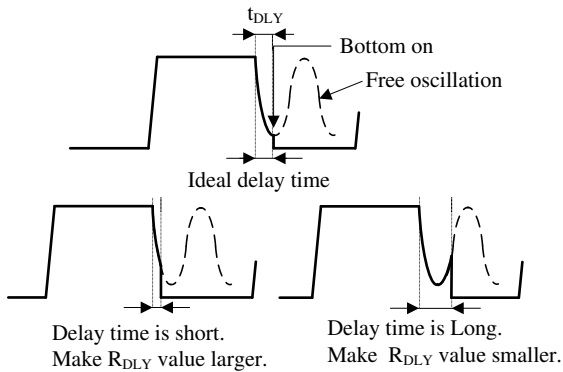

Figure 8-11 Turn-on timing of V_{DS}
Figure 8-10 shows relationship between R_{DLY} value and t_{DLY} value (IC design). As shown in Figure 8-11, the value of R_{DLY} adjusts the turn-on timing to the bottom
The range of R_{DLY} is 15 k Ω to 56 k Ω . The ideal delay time shown in figure 8-11 is given by Equation (3), and it depends on L_P and C_V .